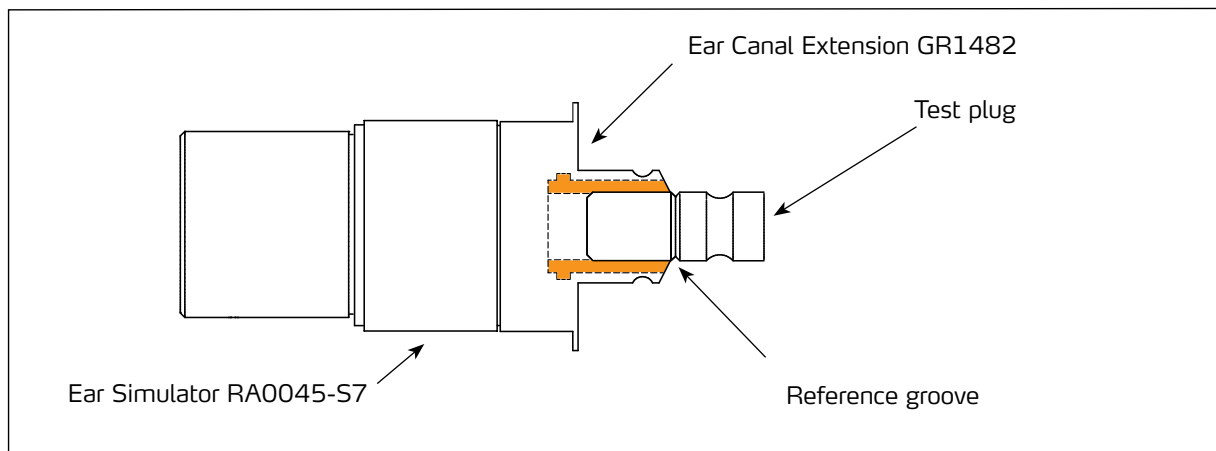

Fig. 24. Plug for checking of wear to the rubber lining of the ear canal extension.
1. Apply a small amount of grease (MI0016) to the O-ring in the 45CB to make a sealed fit (Fig. 24).